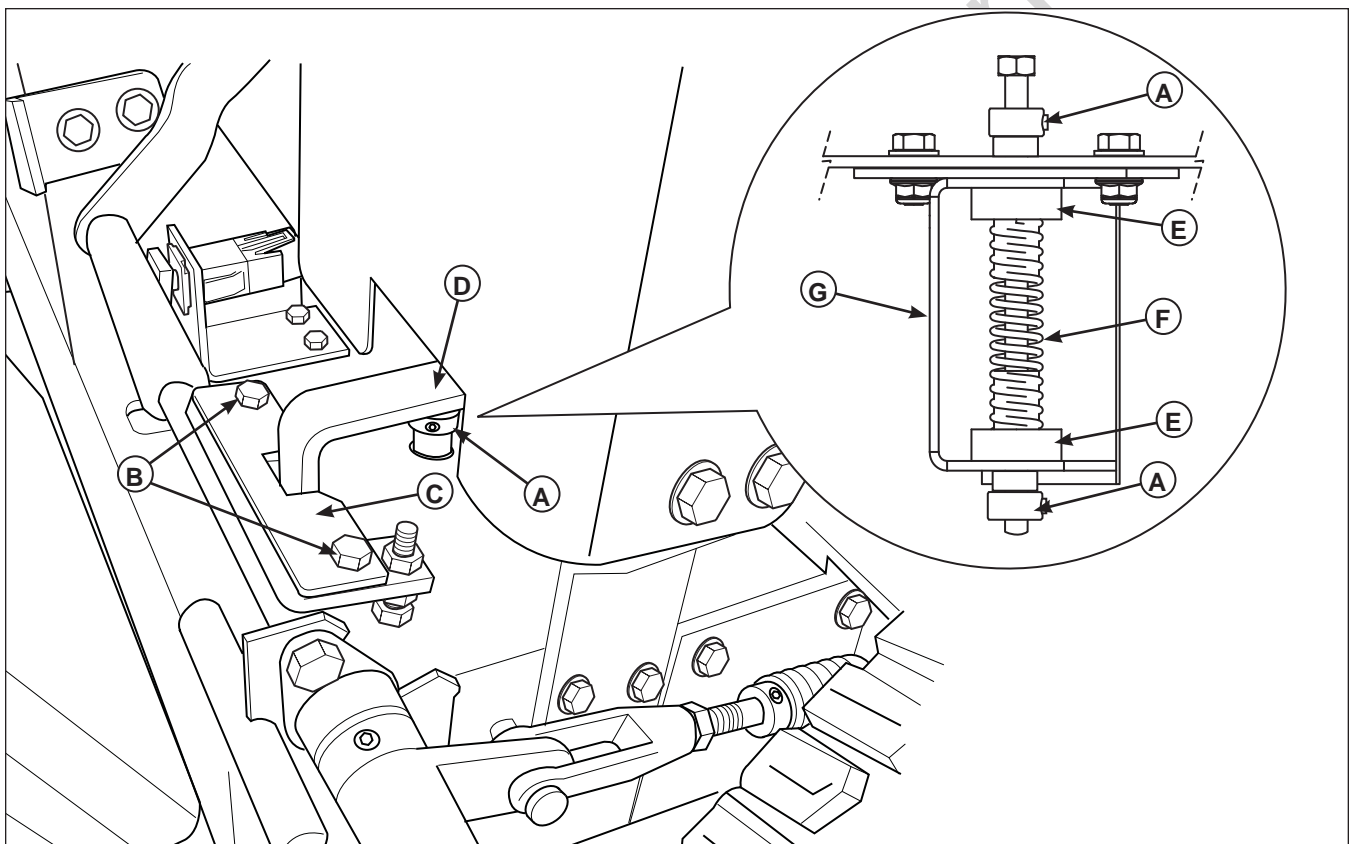

Figure 31. Neutral Position
2. Loosen the set collars (A, Figure 31) that are located on the top and bottom of the neutral return spring (F.)
3. Loosen the neutral lock plate hardware (B.) If the machine creeps forward, slide the neutral lock plate (C) and the pump control arm (D) slightly to the right. If the machine creeps backwards, slide the neutral lock plate and the pump control arm slightly to the left. Retighten the hardware that secures the neutral lock plate.
4. Refer to 31. Make sure that the top plastic bushing (E) is seated tightly against the top of the neutral return bracket (G). Make sure that the bottom plastic bushing (E) is seated tightly against the bottom of the neutral return bracket. Tighten the set collars (A).